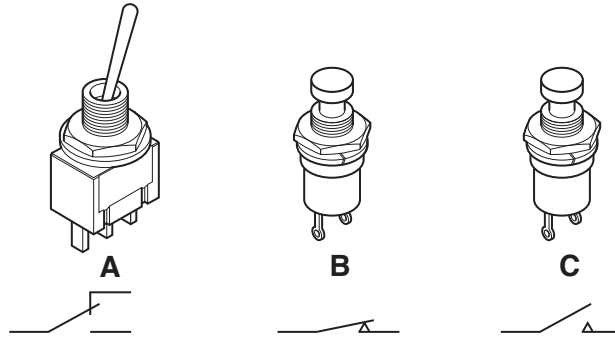

Fig. 1
- 1 (a) Fig. 1 shows three switches and their circuit symbols.
Use the information in Fig. 1 to complete the table below.